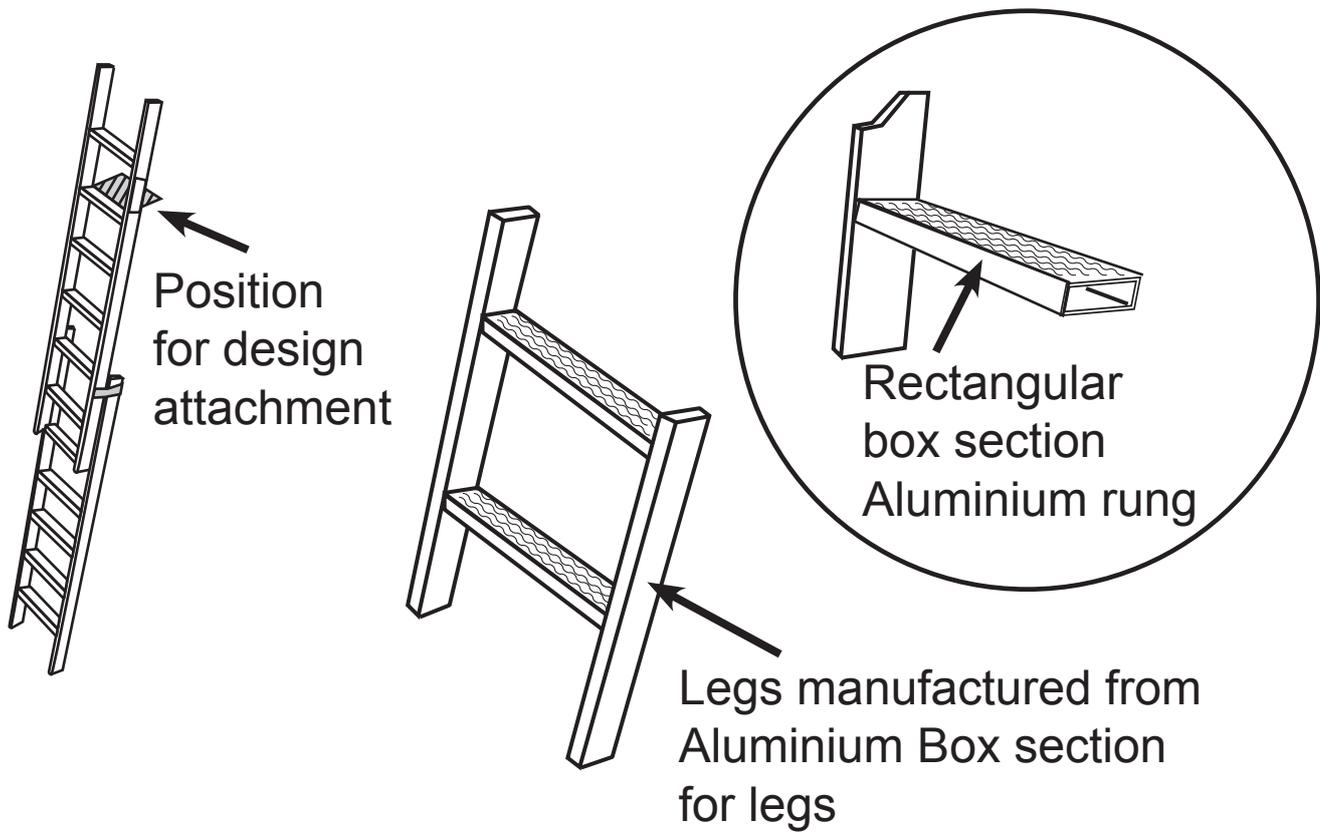

Fig. 17
(h) Fig. 17 below shows drawings of a double extendable aluminium ladder.
- Detailed annotated sketches of a design which can hold a small number of basic tools and can be quickly clipped securely onto the ladder in the position shown in **Fig. 17**. [5 marks]